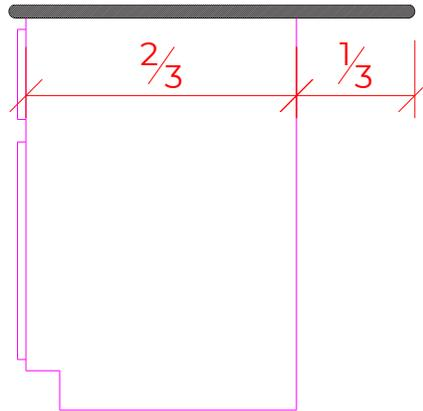

FIGURE 17
- a. The maximum overhang of any countertop—including that with corbel support—is no more than $\frac{1}{3}$ of the depth of the countertop, excluding any seamed product. See Figure 17.